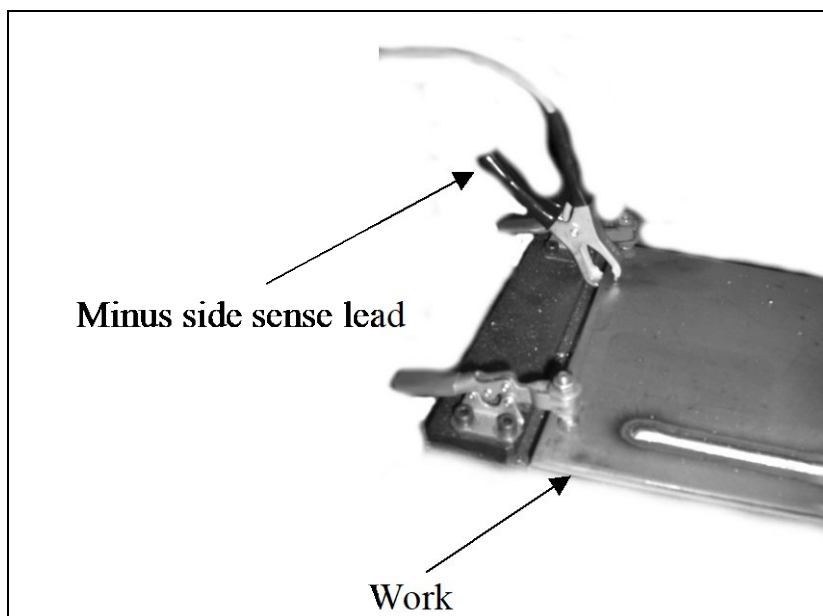

Fig. 7.1 (h) Connection of welding power supply and expansion module
- 1 Refer to Chapter 12 about Expansion module replacing method. When using a Expansion module, connect sense lead of Fig. 7.1 (h). Be sure to connect this cable, too.